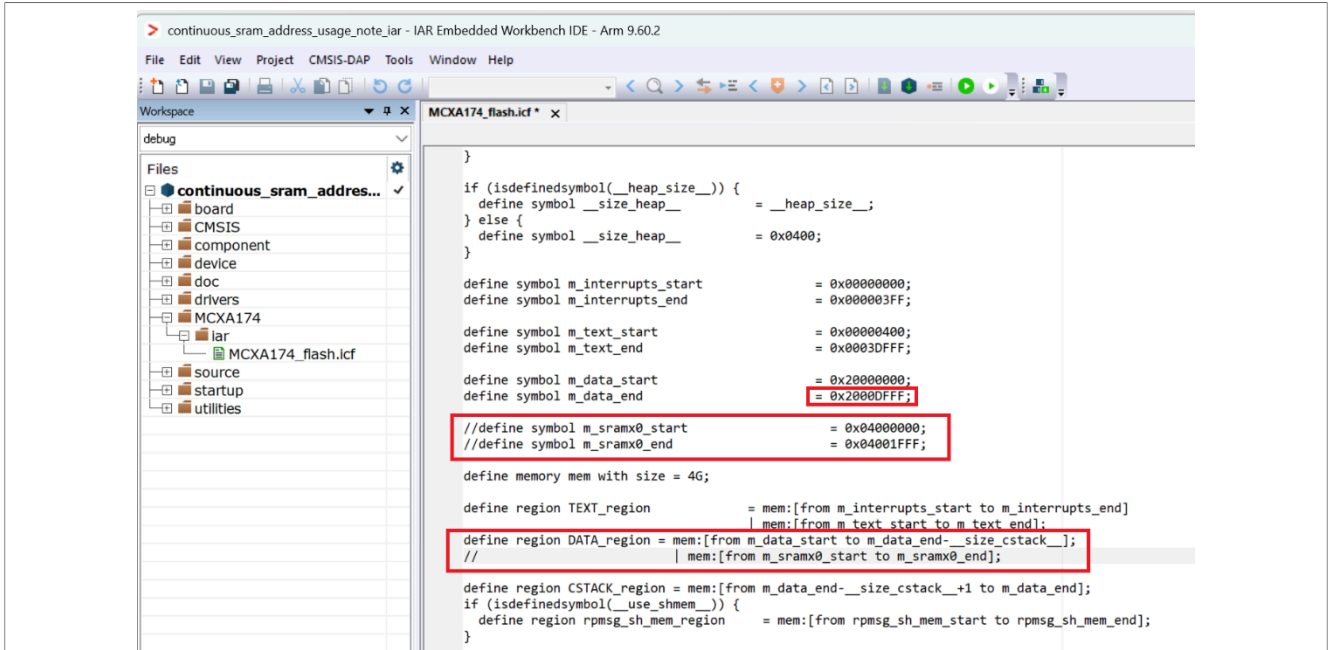

Figure 6. MCX A174 SRAM settings in IAR IDE's linker file
- For MCX A174, as shown in Figure 6: